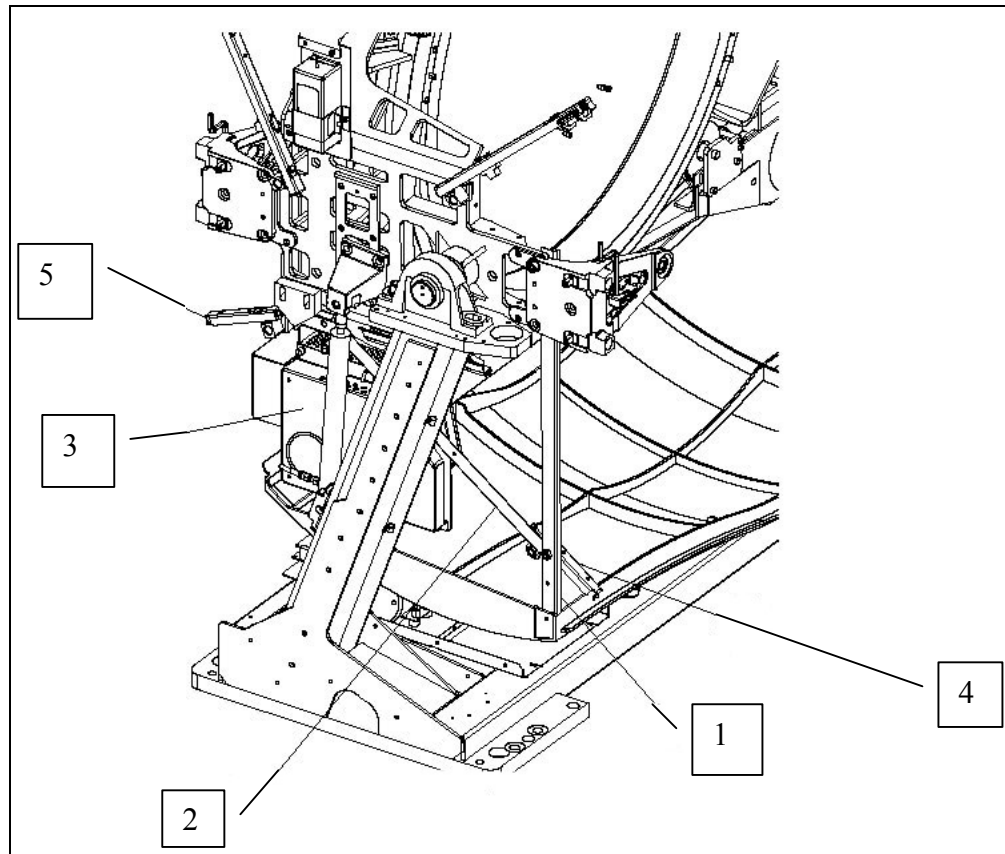
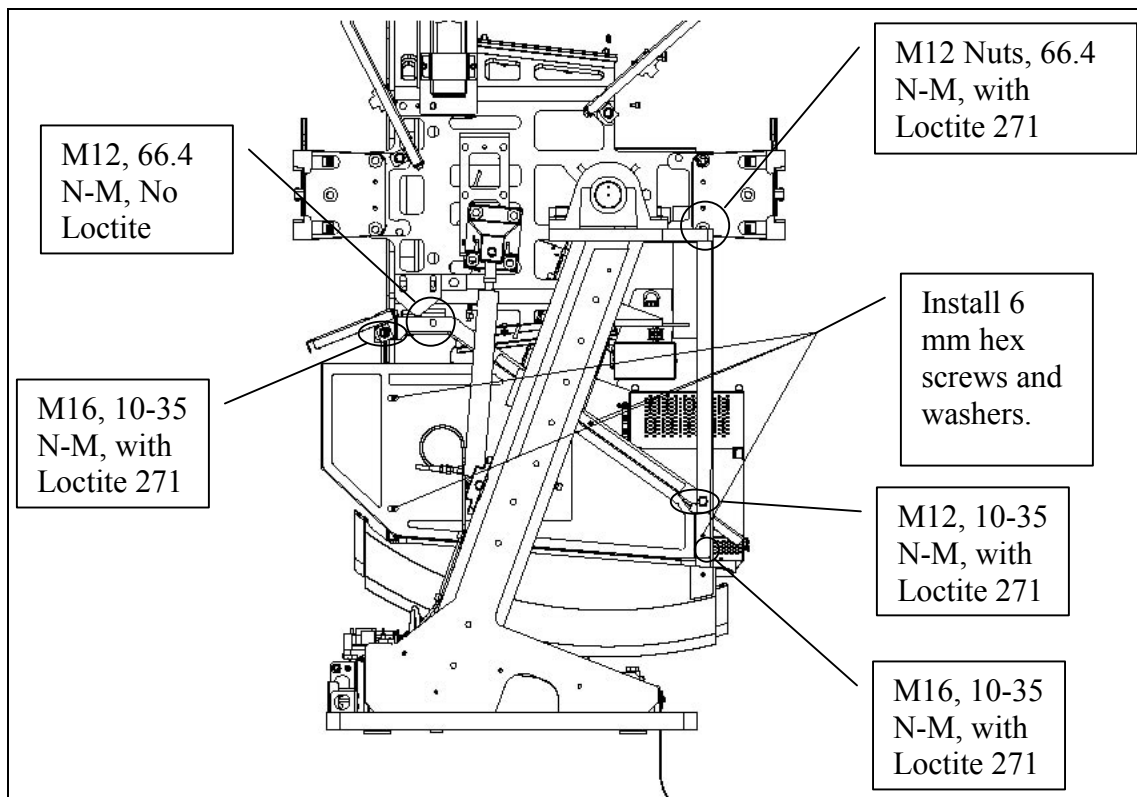

Figure 3. Left Side Panel Preparation
Figure 4. Left Side Panel Installation
2. Inspect cover support brackets (Items 1 and 2, Figure 3) for threaded mounting holes. If holes exist in these brackets, skip to step 8. If holes do not exist, continue to step 3.
3. Remove the lower cover latches and cover support brace assembly for the front and rear cover (items 2, 4 and 5, Figure 3) from the tilting frame.
4. Remove the lower cover latches (items 4 and 5, Figure 3) from the cover support brace (item 2, Figure 3).
5. Apply Loctite 271 to each fastener and install lower cover latches (items 4 and 5, Figure 3) onto new cover support brace (2258067-2). Be sure to maintain same orientation of cover support brace to latches.
6. Remove gantry cover support angle (item 1, Figure 3) and replace with new angle supplied in FMI kit (2258731-2). Per Figure 4, apply Loctite 271 to each fastener.
7. Install the lower cover mounts and new support brace assembly (items 2, 4 and 5, Figure 3). Per Figure 4, apply Loctite 271 to mounting screws.
10. Replace Cover for HEMRC I/F Board (item 3, Figure 3) with cover (2265650-2) supplied in FMI kit.
11. Install Left Side Panel (2294827), using four screws (46-328417P11), four lock washers (46-328432P3), and four washers (46-328431P2) supplied in FMI kit (refer to Figure 4).
12. Torque all fastening nuts and screws as indicated in Figure 4.